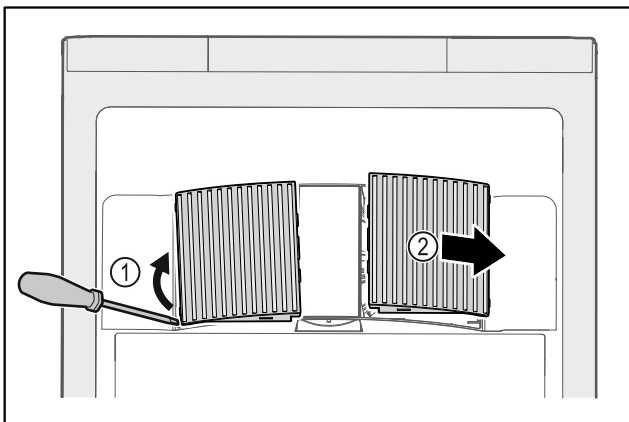

Fig. 179
- ▶ Carefully lever out fan covers from the side Fig. 179 (1) and remove towards the front Fig. 179 (2).